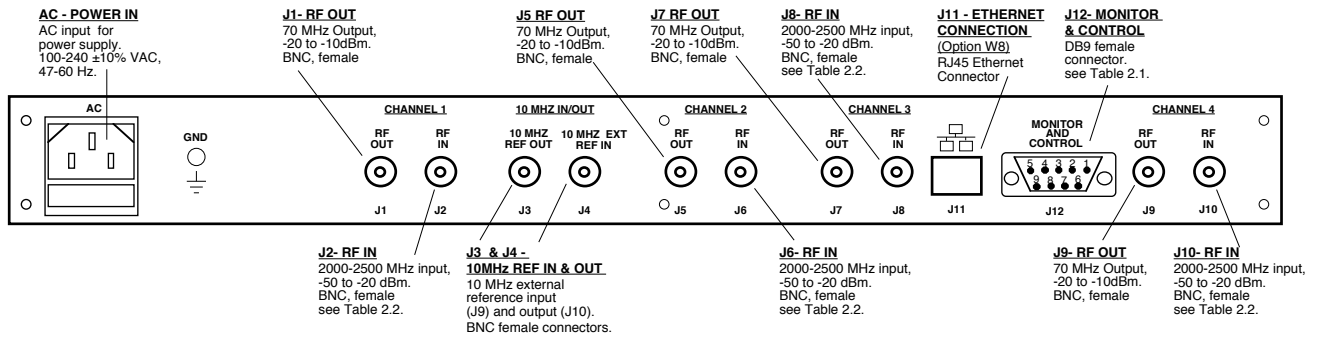

FIGURE 2.2 2416-x25 Rear Panel I/Os
Figure 2.2 shows the input and output connectors on the rear panel.
1. Connect a -50 dBm to -20 dBm signal to RF IN, J2 (Figure 2.2).